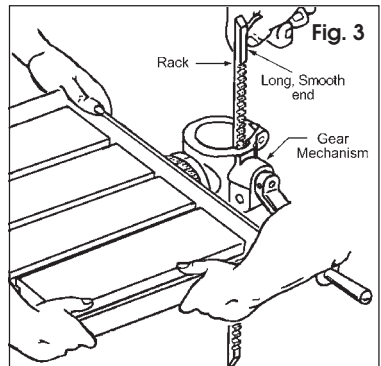

Fig. 3
5. With assistance, raise the table and insert the rack into the Gear Housing with the long smooth end uppermost, as shown in fig. 3, and engaged with the gear within the housing.